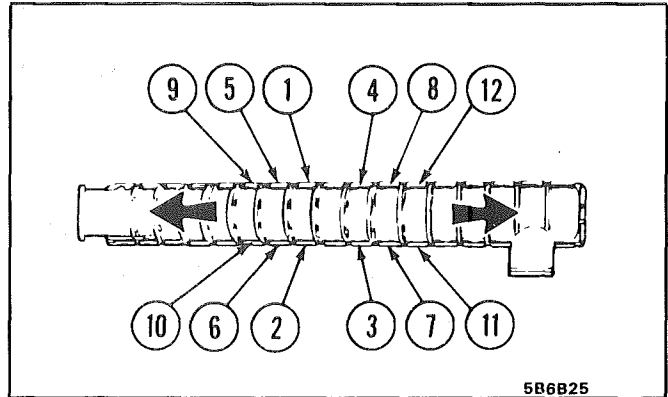

Fig. 25 Clinching Sequence
10. Clamp remaining clinch tabs around the header using the clinching tool or pliers (Fig. 25).